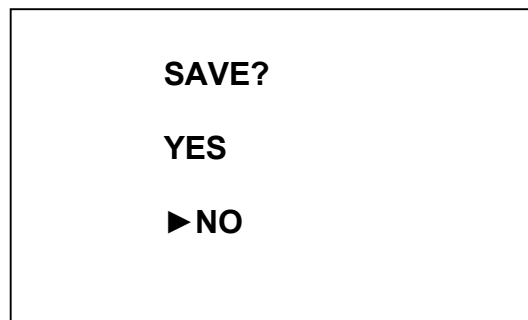

Fig. 2.8
- 6 Press the "menu enter" button and display shown in Fig. 2.8 comes on.
- 8 Press the "^{menu}enter" button once again and the display shown in Fig. 2.8 will appear.